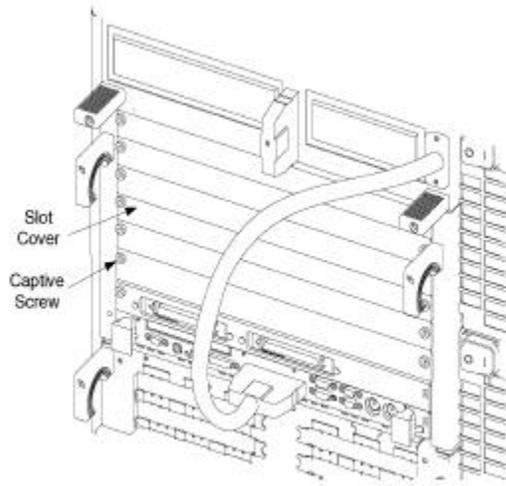

Figure 3-1
- 3 Using Figure 3-1 as a guide, loosen the captive screw on each end of the slot covers where you will install VME card(s), and then remove the covers.